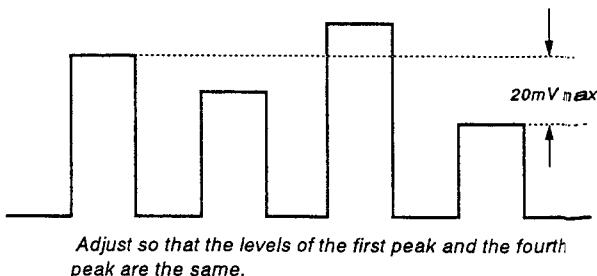

Fig. 12
5. Using **SUB CHROMA NORMAL**, adjust so that the tops of the waveform line up as in the diagram below. (Fig. 12)
2. Input an adjustment value of 98 for **SUB CHROMA NORMAL**. (Fig. 12)